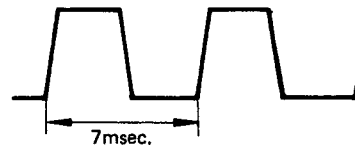

Fig. 2-18 Waveform at TP1
4. During fast forward or rewind mode, adjust R150(see Fig. 2-9) so that wavelength displayed on the oscilloscope becomes 7msec. (Fig. 2-18). Adjustment should be satisfied at any tape winding position.
3. TP. 1の波形の波長が7m secになるようにR150(図2-9参照) を調整する……図2-18